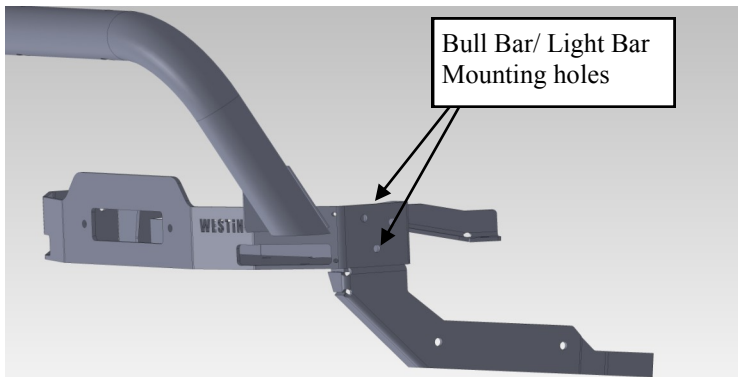

Fig 1
2. Starting at the front of the vehicle, locate the two bull bar/ light bar mounting holes on either side of the winch tray (Fig 1).